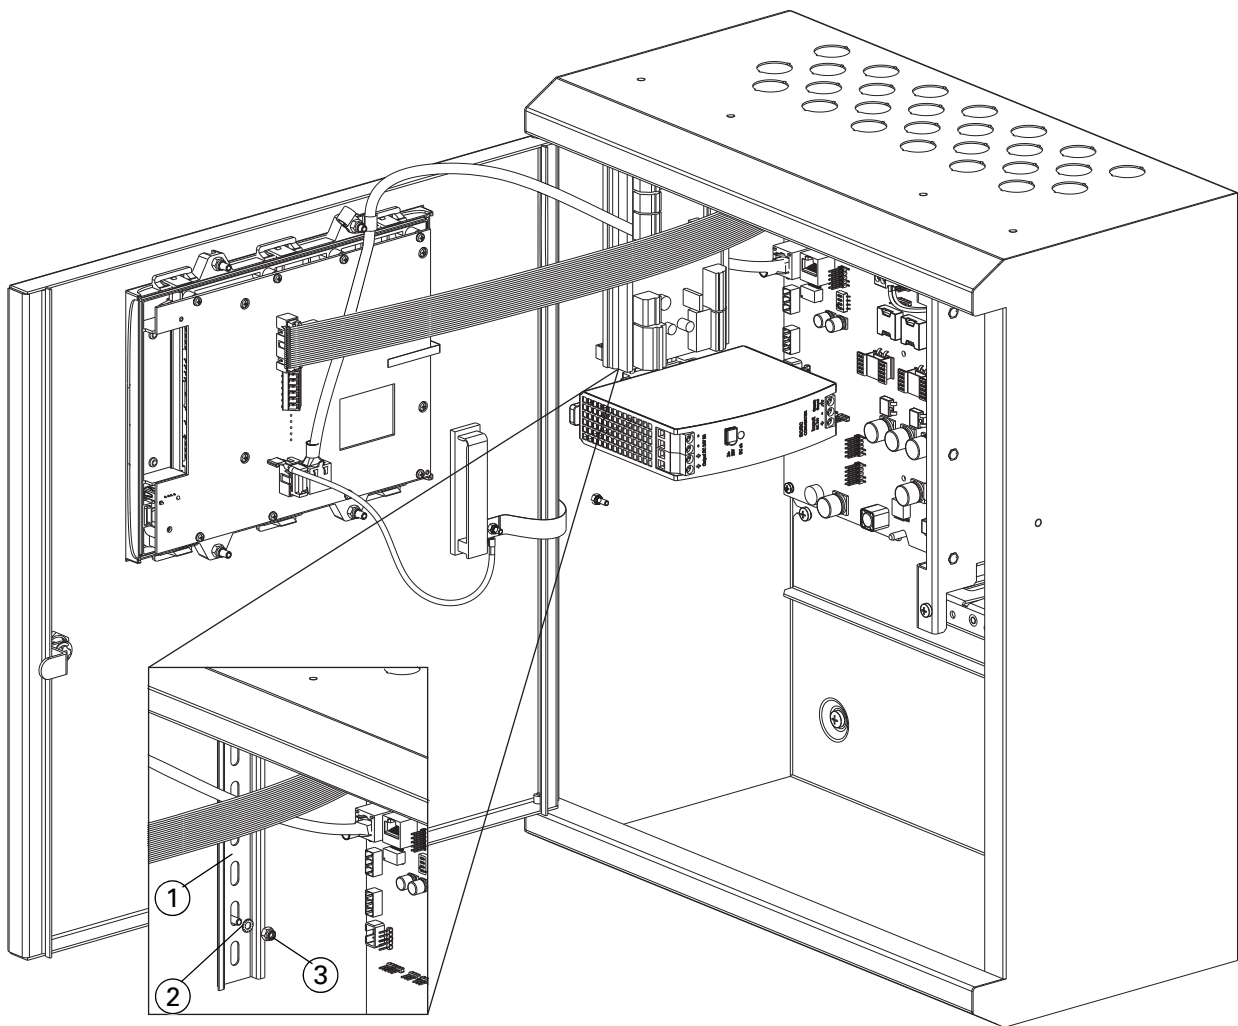

Fig. 33: DIN rail devices on a FC702D, FC718 or a FC708 panel
You need to fit the DIN rail to the left side of the panel housing, at the top, as shown in Fig. 33. You need to purchase the DIN rail, the M4 Nyloc nut and the M4 washer separately. The recommended slotted DIN rail size is 180 mm.
To mount the DIN rail in a FC702D/718/708 panel, refer to Fig. 33 and complete these steps:
- 1 Place the DIN Rail (item 1 in Fig. 33) vertically on the top left corner of the panel, fitting the holes through the screws in the side of the box.
- 3 Fit a washer (item 2 in Fig. 33) through the screw and fasten with a nut (item 3 in Fig. 33).